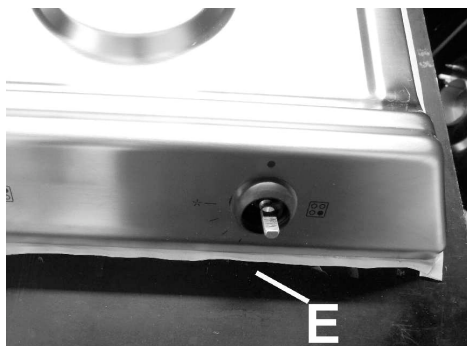

FIG. 11
- Carefully trim the edge excess putty with a tool (fig. 11 - 12).